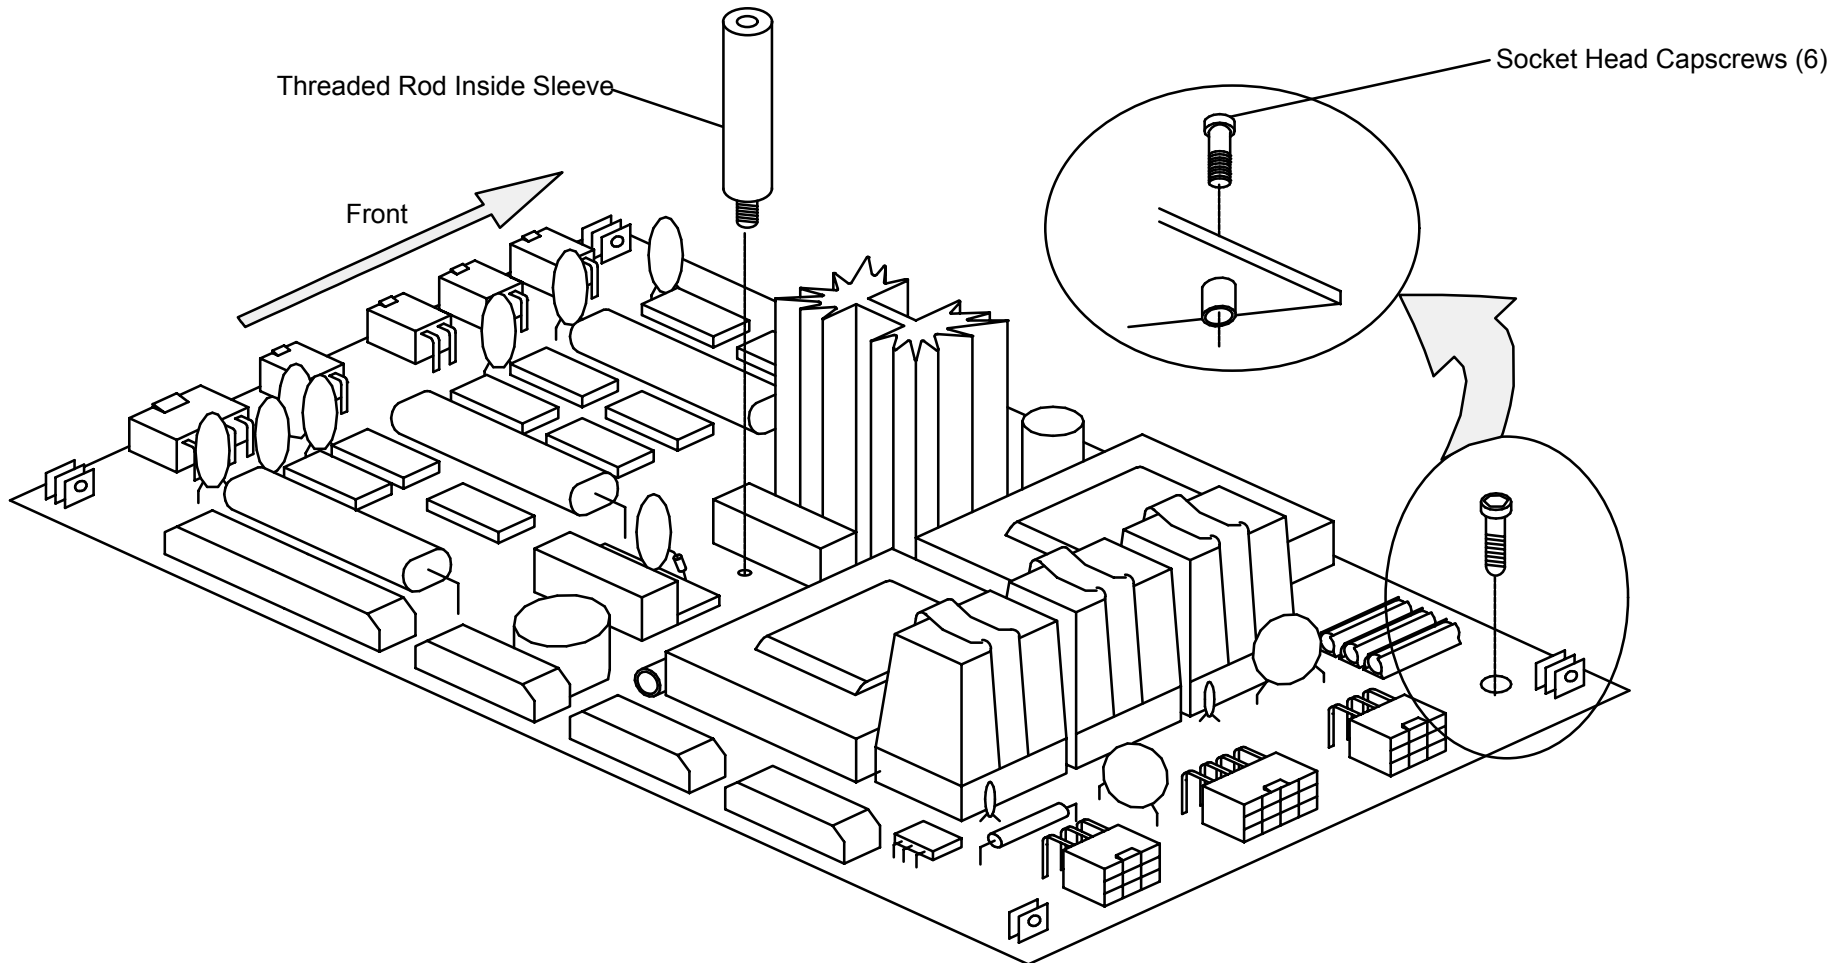

FIGURE 262 Small Drives Relay Printed Circuit Board
5. Support the Small Drives Relay PCB and remove six Mounting Socket Head Capscrews and the Threaded Rod and Sleeve. Remove the Small Drives Relay Board. See Figure 262.